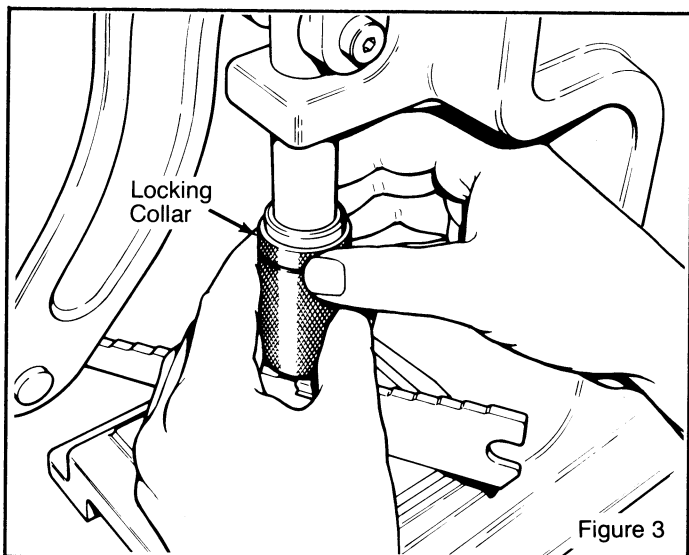

Figure 3
5. Rotate the locking collar firmly against the adjustment collar, securing the adjustment setting (see figure 3)